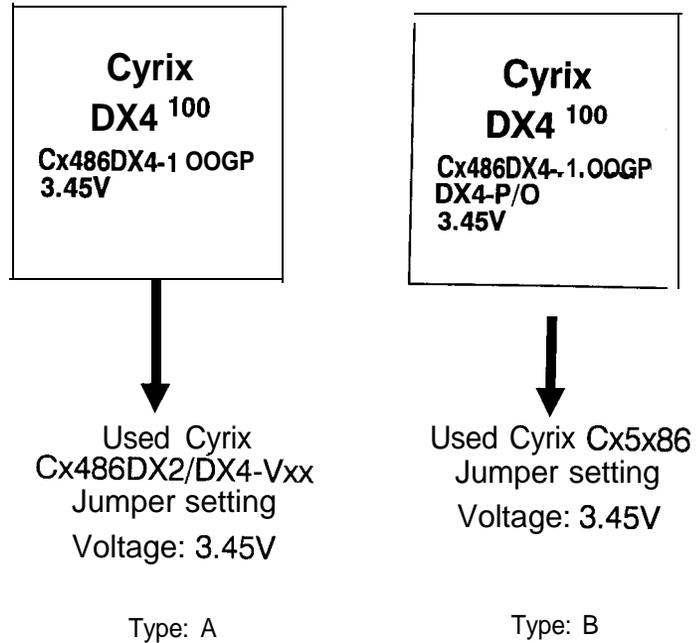

Figure:1
1. Identify your Cyrix DX4-100 according to figure: 1.